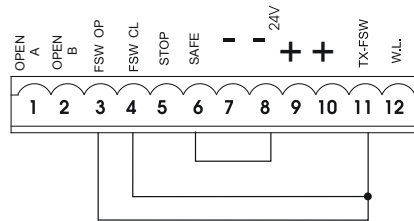

Fig. 26
N.B: If safety devices are not used, jumper the terminals as shown in Fig. 26.
NB: If no opening safety devices are connected, jumper inputs FSW OP and -TX FSW (Fig. 26).
NB: If no closing safety devices are connected, jumper terminals FSW CL and -TX FSW (Fig. 26).
NB: If edge safety devices are not connected, jumper the SAFE and - inputs (Fig. 26).